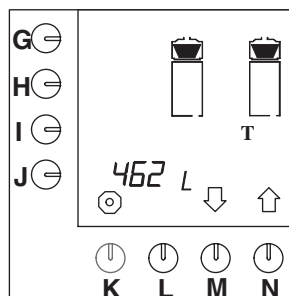

Fig. 38 Total counter coffee making system
- Press selection key (N.)↑ until fig.38 appears on the display.